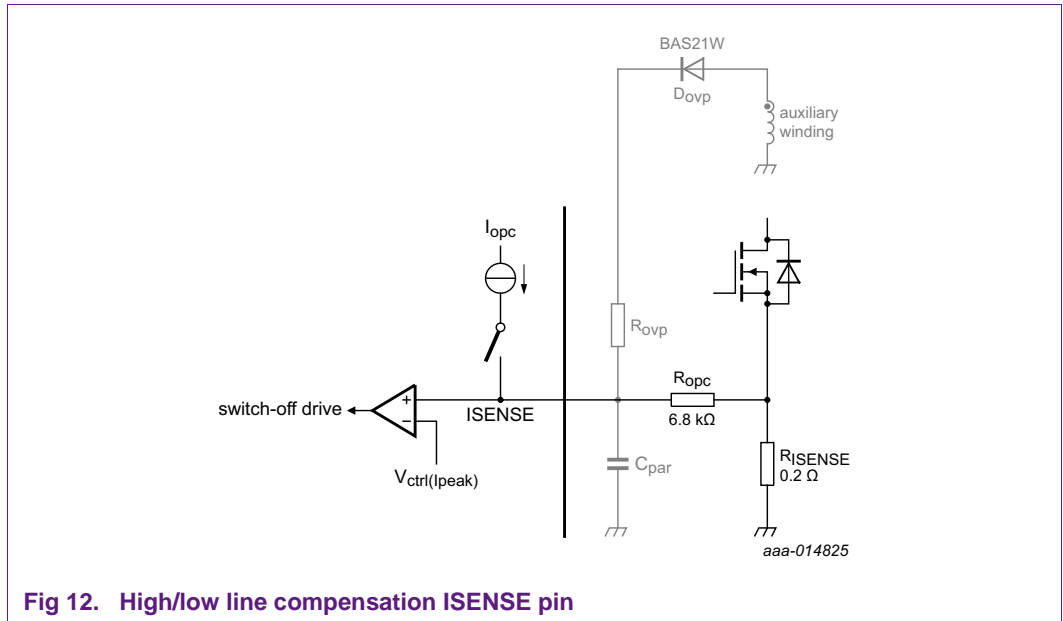

Fig 12. High/low line compensation ISENSE pin
The high/low line compensation is realized by forcing a current I_{opc} (overpower correction) out of the ISENSE pin (see Figure 12).
The value of resistor R_{opc} determines the level of compensation. With the R_{opc} value used in the schematic (6.8 kΩ; see Figure 12), the correction of the voltage on the ISENSE pin is 41 mV at 365 V (DC) bulk voltage (264 V (AC)), which equals about 10 % of the 400 mV $V_{th(sense)opp}$.